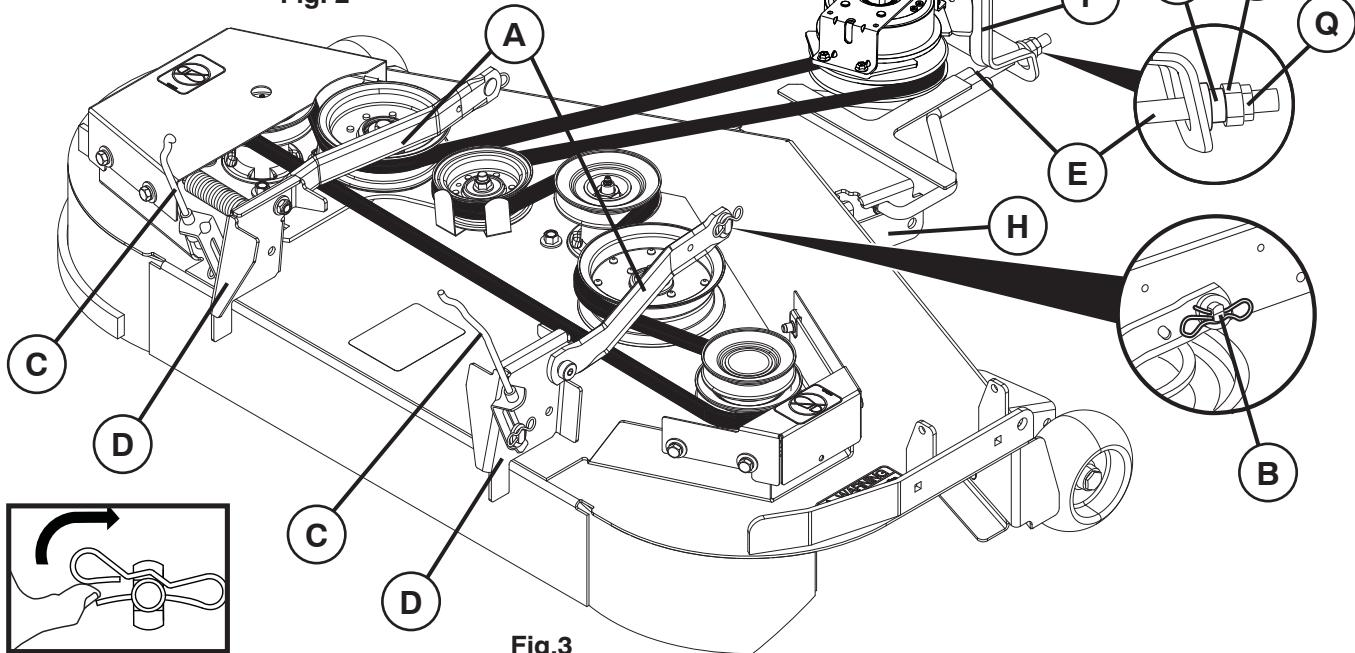

Fig. 3
**NOTE:** Ensure mower side suspension arms (A) are pointing forward before sliding mower under tractor.
- Install flared ends of front link (E) into slots in front mower bracket (H). See Fig. 3.
- Install belt onto electric clutch pulley (M).